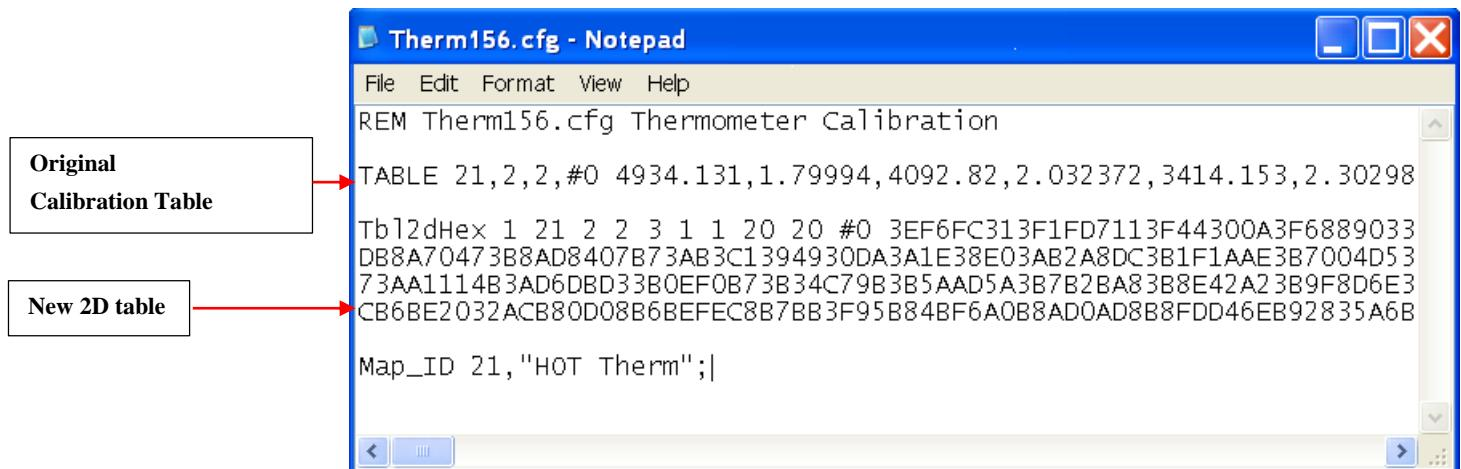

Figure 11: Updated TTO Hot thermometer Configuration file with new MR Calibrated 2D table
2. Copy the 2D table from the configuration file (Do not copy the command: TBLMODE 21,2) and paste in the TTO ThermXXX.cfg file (<\\QdPpms\ThermalTransport\Calibration>) under the original thermometer calibration table. (Figure 11)